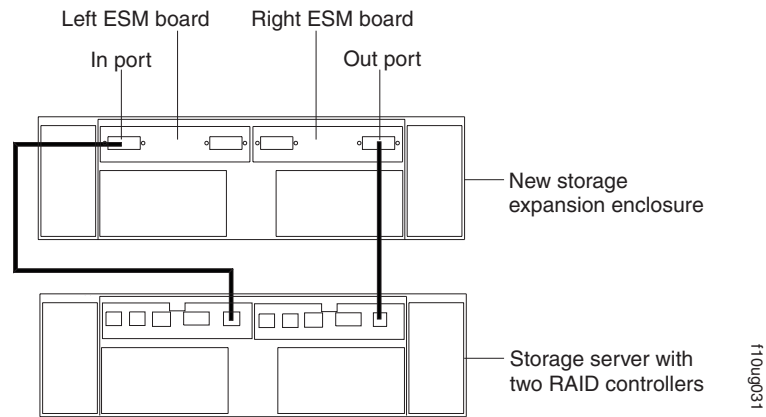

Figure 53. Adding a storage expansion enclosure
2. Use the following procedure and Figure 53 on page 59 to connect a single storage expansion enclosure to the storage server: